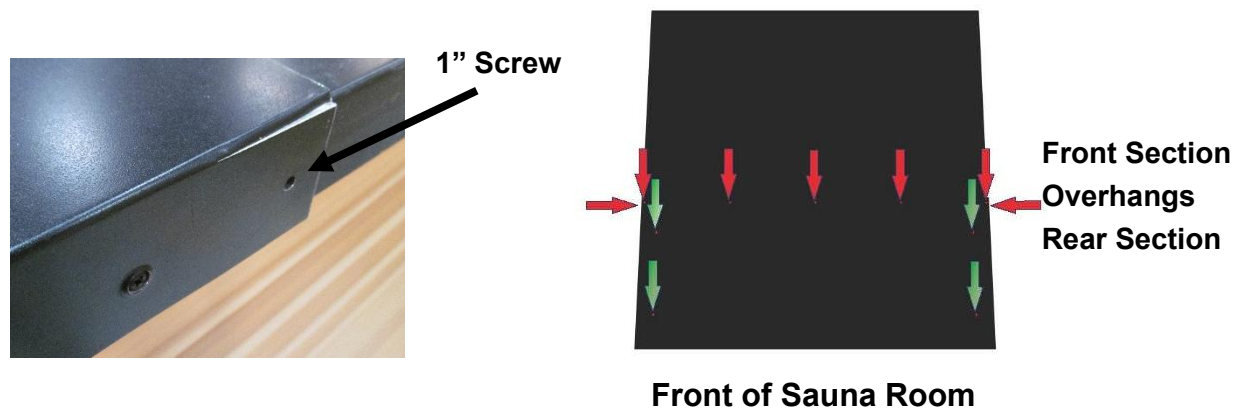

Figure 8
Locate the EXTERIOR ROOF PANEL that does not have the overhang. This section will be installed first. Proceed to lift this section up and onto the rooftop at the rear of the sauna room. There is a wood plank on the inside of the EXTERIOR ROOF PANEL that will sit up against the interior of the REAR WALL PANEL. This will allow it to sit in place and not slide off of the rooftop. Use (4) of the 2.8" screws to screw this section downward to the side wall panels. Next, lift the front section of the EXTERIOR ROOF PANEL that has the overhang up and onto the rooftop from the front of the sauna room. The overhang will be positioned over the rear section of the EXTERIOR ROOF PANEL. Again, there is a wood plank on the inside of the front section of the EXTERIOR ROOF PANEL that will sit up against the interior of the FRONT WALL PANEL. Use the remaining (4) 2.8" screws to screw this section downward to the side wall panels. provided screws. Use (5) of the 1" screws to screw the overhang section down to the rear section of the EXTERIOR ROOF PANEL. Use the last (2) 1" screws to screw horizontally at each side of the front section as seen in Figure 8.